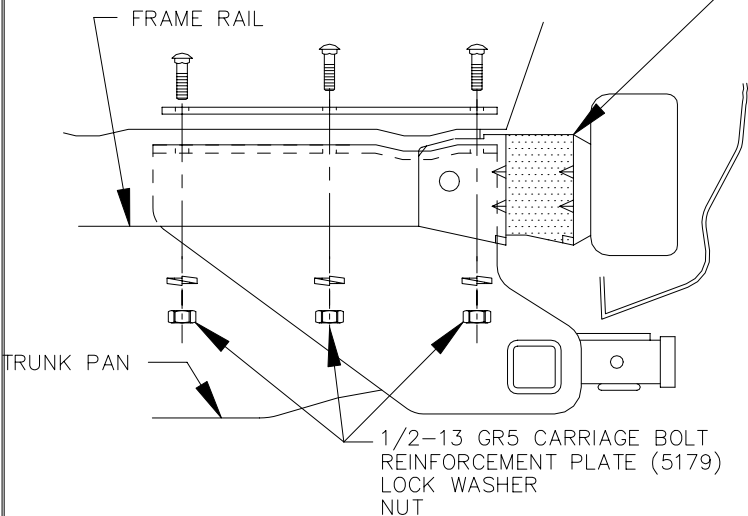

FIGURE 3. DRIVER'S SIDE
- INSTALL 1/2" CARRIAGE BOLTS DOWN THRU REINFORCEMENT PLATE (5179) AND TRUNK PAN INTO HITCH. FASTEN WITH LOCK WASHERS AND NUTS AS SHOWN IN FIG 3.
- USING REINFORCEMENT PLATE (5179) AS A TEMPLATE, DRILL THREE (3) 1/2" HOLES (OUTBOARD OF HOLES DRILLED EARLIER), THROUGH TRUNK PAN, INSTALL REMAINING 1/2 CARRIAGE BOLTS AND FASTEN WITH FLAT WASHERS, LOCK WASHERS AND NUTS.